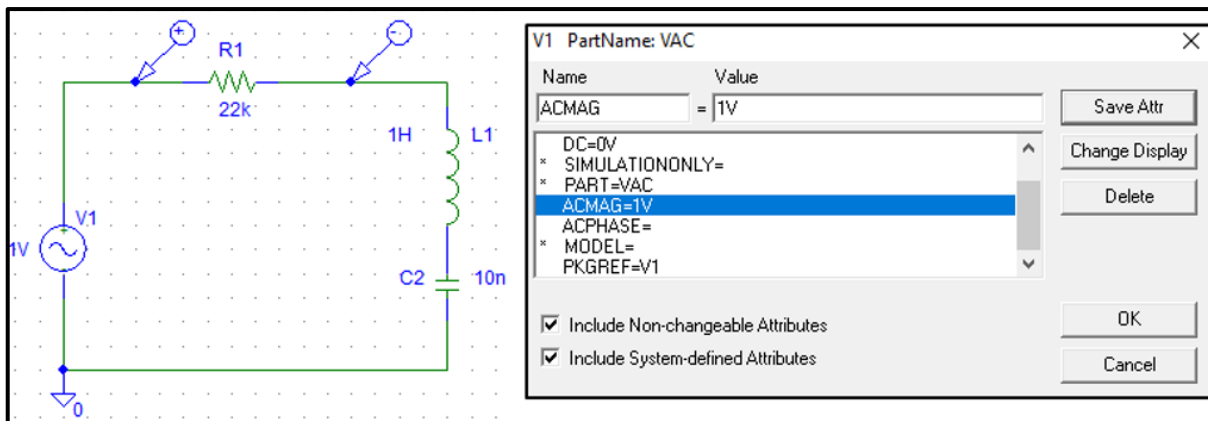

Figure.47
- The circuit shown in figure.47 contains an (vac) source which is used for AC sweep analysis.